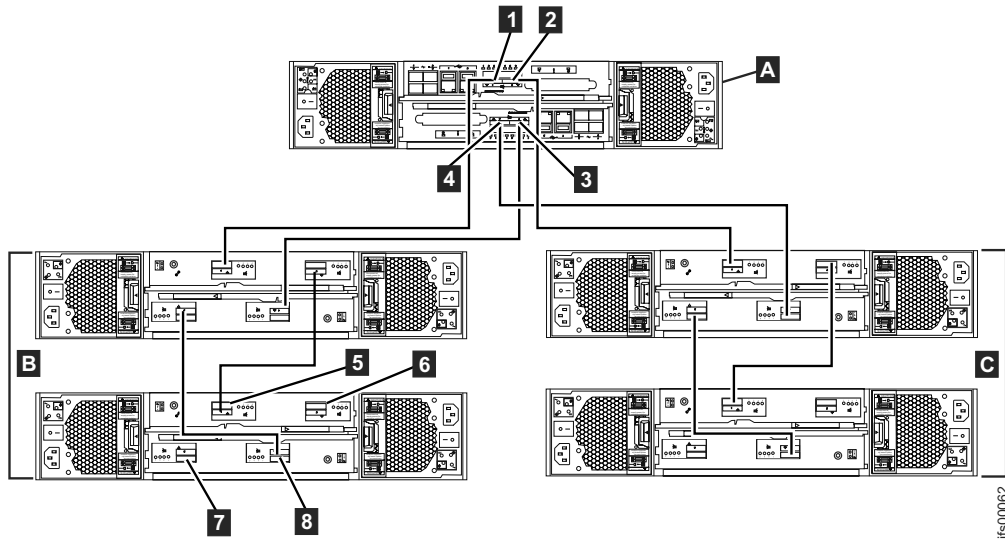

Figure 33. Internal cabling connections between the control enclosure (A) and the expansion enclosures (B & C).
The following table refers to Figure 33 on page 44.
1. Review Table 14 and the figures before attaching the SAS cables. The table below refers to Figure 33.